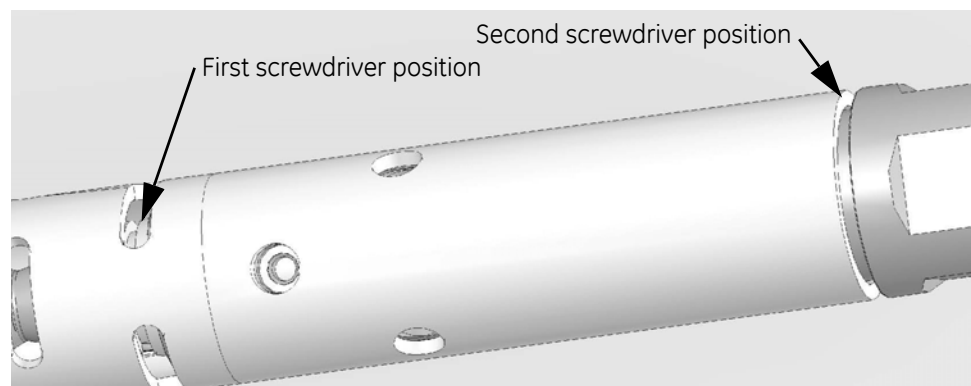

Figure 5-2 Position of Screwdrivers to Remove the Bottom Sub
- 1 Remove the Bottom End Cap (item 55) from the Bottom Sub (item 15).
- 2 Remove and discard the two O-Rings (item 41) on the Bottom Sub (item 15).
- 3 Remove the six Cap Head Screws (item 59) securing the Housing (item 20) to the Bottom Sub (item 15).
- 4 Insert a flathead screwdriver through the Housing slot and into the groove at the base of the RX2 to End Hose (item 25), see Figure 5-2. Exert pressure when carrying out the next step to maintain the RX2 to End Hose position. The Hose must not be compromised while removing the Bottom Sub.
- 5 Insert a second large flathead screwdriver between the Housing (item 20) and the Bottom Sub (item 15) to pry off the Bottom Sub, see Figure 5-2.